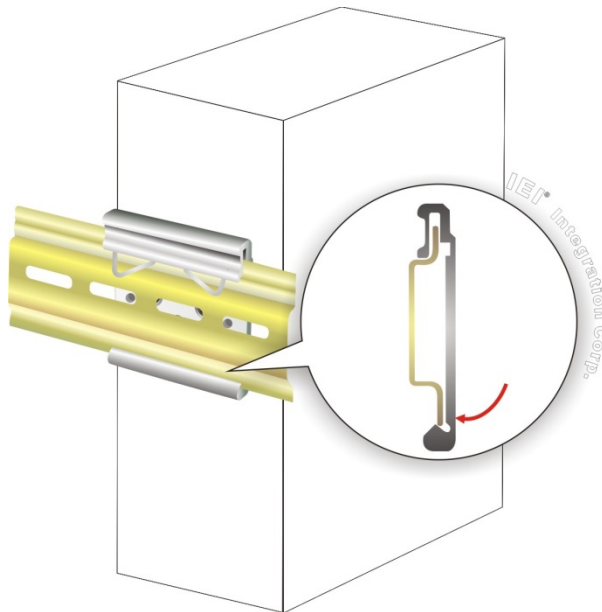

Figure 3-28: Mounting the System
Step 3: Push the system toward the DIN rail until the mounting bracket clips into place firmly (**Figure 3-28**).